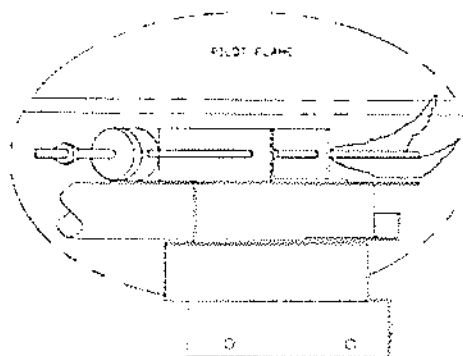

Figure 7
B. Pilot Flame - The pilot flame should engulf the tip of the thermocouple as illustrated in Figure 7. Correct as needed.